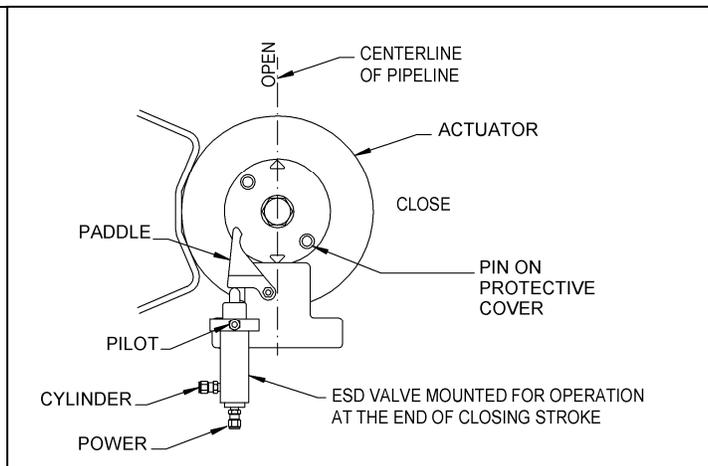

Figure 6: Limit Valve Installation
1. Before trying to adjust a Limit Valve, use the Shafer Hand Pump to position the actuator so that the pin on the Protective Cover is away from the paddle (see Figure 6).
8. Turn the Adjusting Cap (Item 3) counterclockwise until it is against the Paddle. Follow with the Lock Nut (Item 2), but do not tighten yet. Leave the Lock Nut against the Adjusting Nut (3).
9. Put the actuator control back in run condition and stroke the actuator, with the hand pump, until the pin is away from the paddle. (See Figure 6)